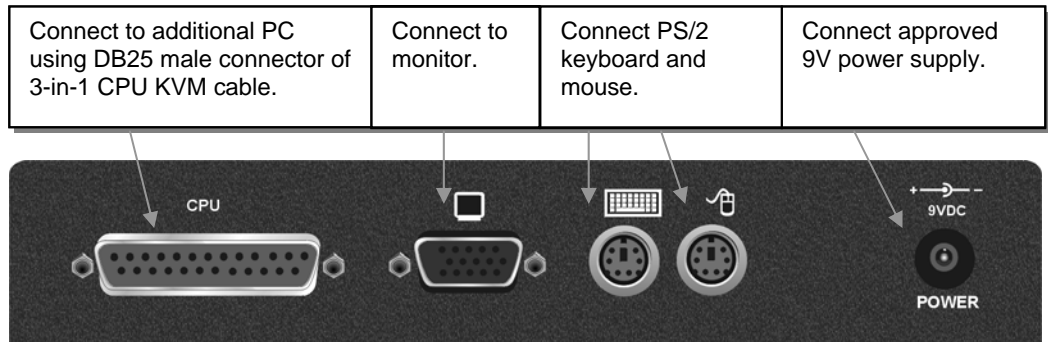
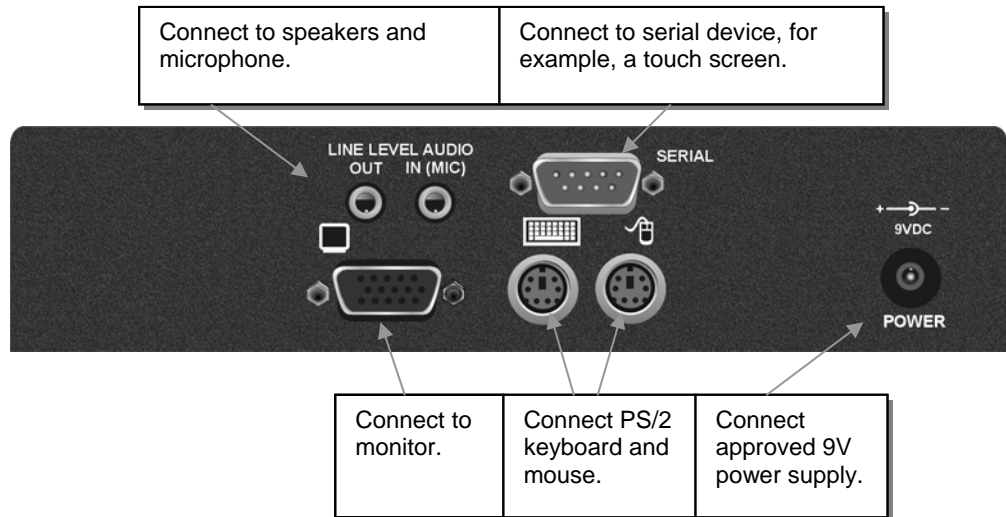

Figure 3 *SDLink Switching Remote Unit (SDLINK/RSW – also supplied with SDLINK2/SW kit) – rear view*
Figure 4 *SDLink Audio Remote Units (SDLINK/RA – also supplied with SDLINK1/AU and SDLINK2/AU kits)– rear view*
2. Connect your keyboard, monitor(s) and mouse to the Remote Unit as shown in Figure 3 (Switching) or Figure 4 (Audio/Serial).